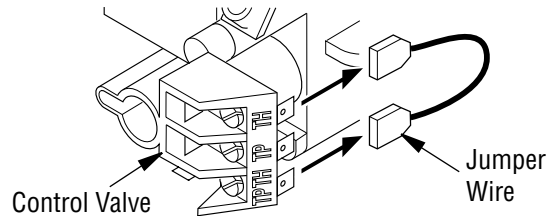

Figure 18 - Disconnecting Jumper Wire From Control Valve
6. Disconnect jumper wire from control valve at TPTH and TH locations (see *Figure 18*).